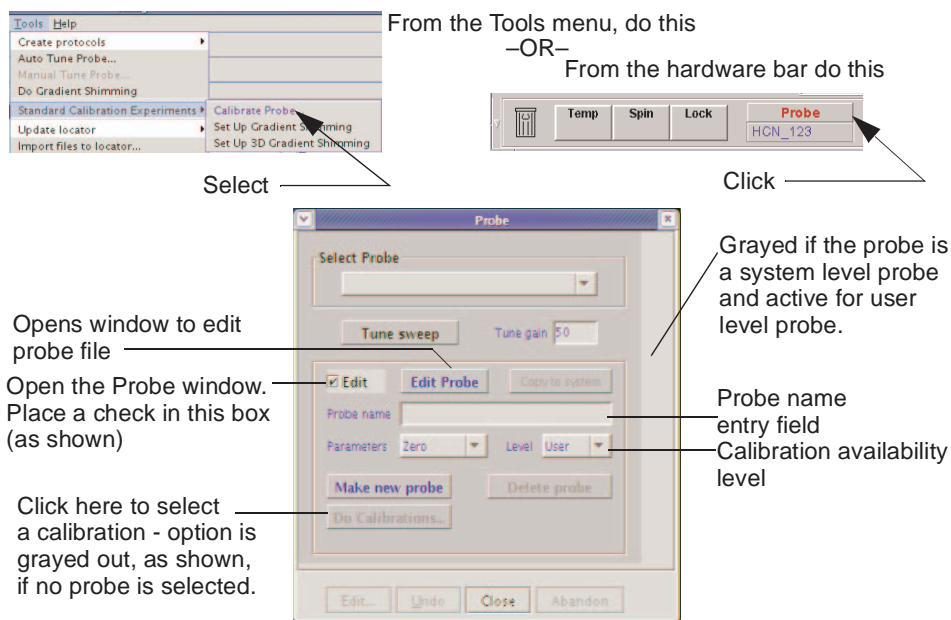

Figure 9. Calibrating a Probe
- Do one of the following to start the probe calibration, see Figure 9, and open the probe window: